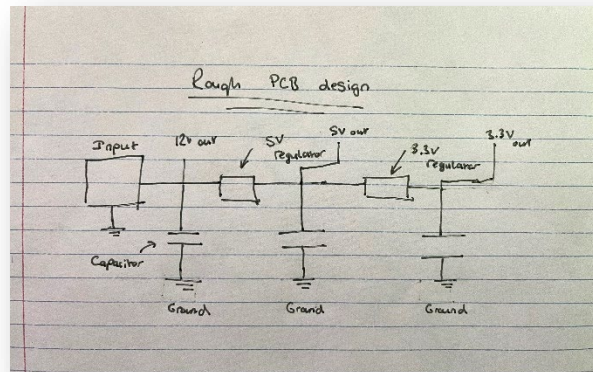

Figure 1
- Design a circuit to satisfy the requirements using components provided in the robotics class kit. Resulting design shown below in figure 1.